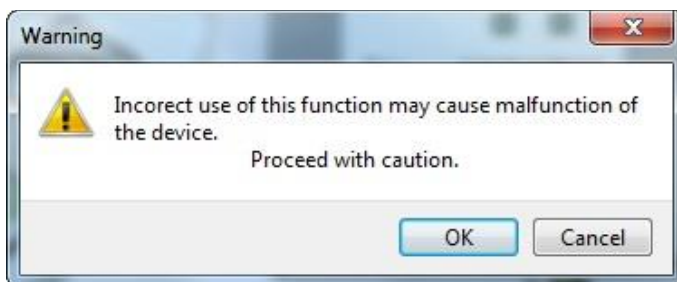

Fig. 34 Warning.
2. Warning: Select **OK** to start update (Fig. 34).